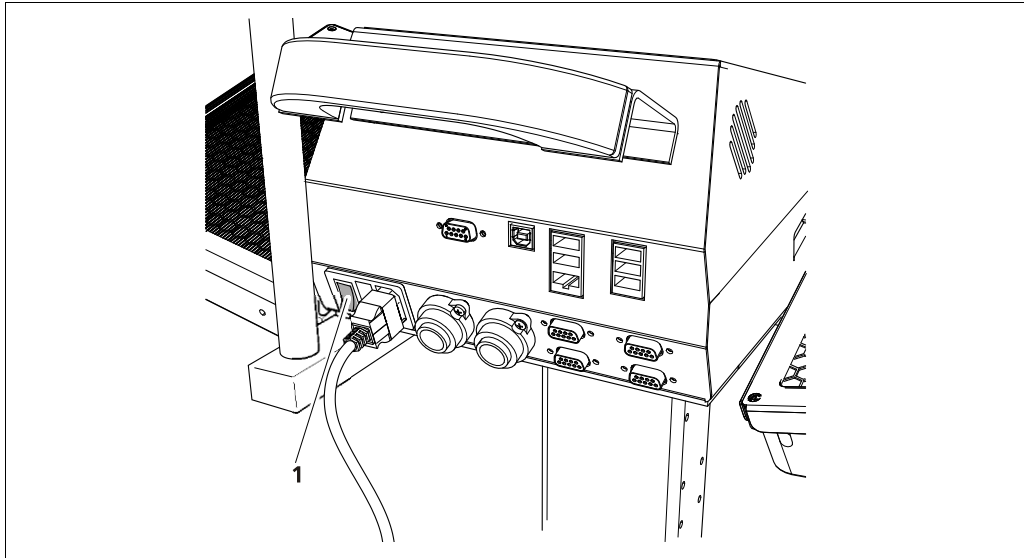

Fig. 11 On / Off switch
Switch on the Contamination Monitor LB 147 at the switch (Fig. 11, item 1) on the rear of the device.
The Contamination Monitor LB 147 cannot be shut down. Switch off the Contamination Monitor LB 147 at the switch (Fig. 11, item 1) on the rear of the device.